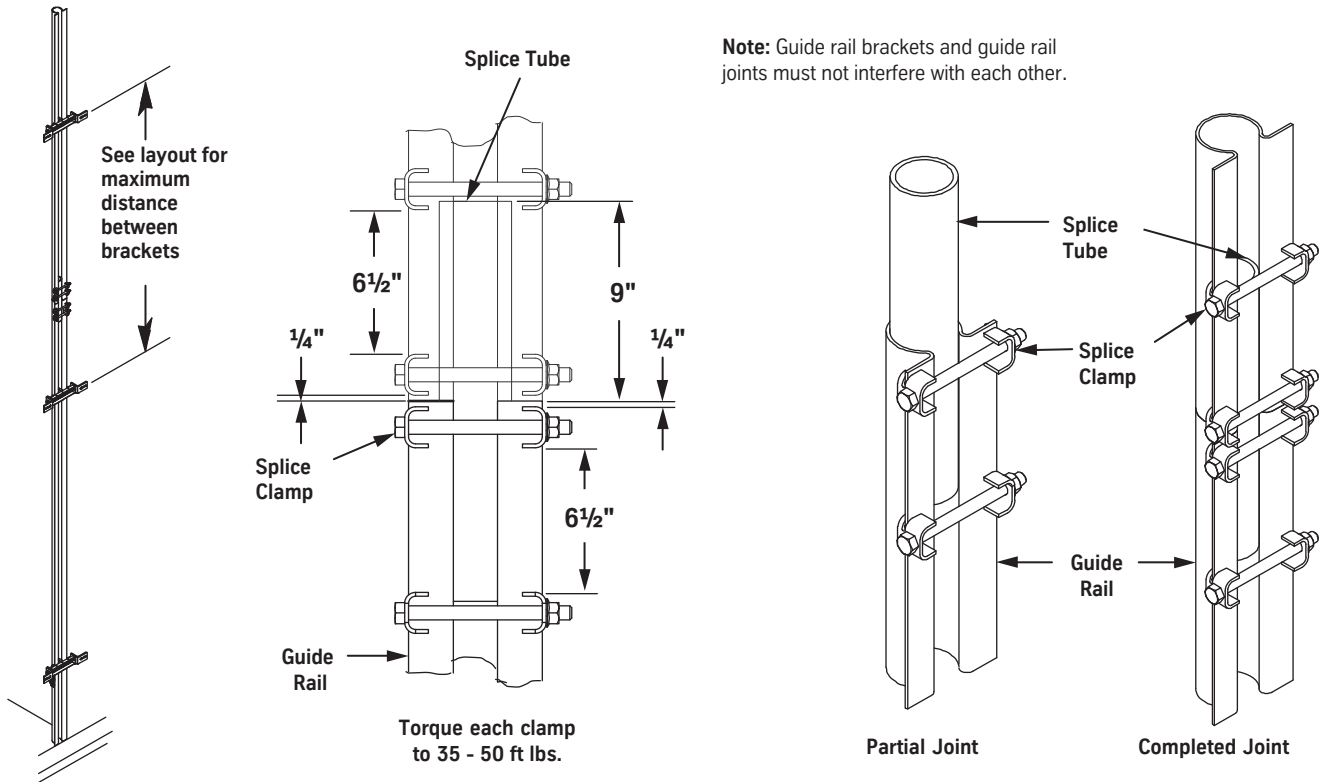

Figure 72 - Rail Splice and Final Rail Installation
2. Install the lasers on the pit template underneath the rails. See Figure 72 for all steps in this procedure.